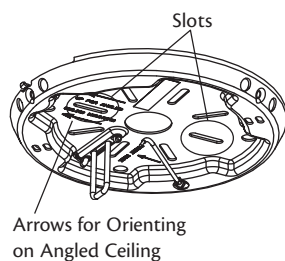

Figure 10 - Locating the slotted holes to use
4. Align the slotted holes (refer to Figure 10) in the ceiling plate with the pilot holes in the wood support structure. Note: The isolation pads should be flush against the ceiling. For Angled Ceilings: Be sure to orient the ceiling plate so that the arrows on the ceiling plate are pointing towards the ceiling peak. Refer to Figure 10.